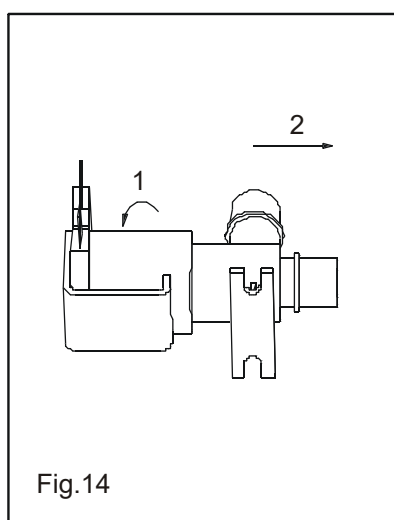

Fig. 14
3. Clean the electro valve (Fig. 9A) by unscrewing the magnet and replacing it after cleaning (Fig. 14).